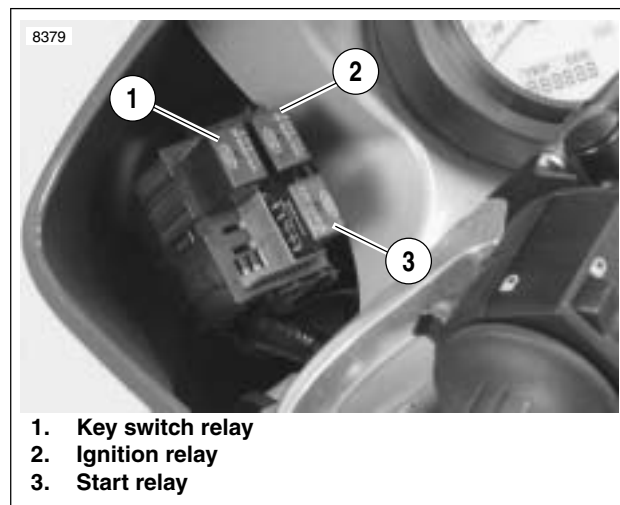

Figure 7-15. Relay Block
1. See Figure 7-15. Locate ignition relay (2) within relay block.
See Figure 7-15. The key switch relay (1) is located on the left side of the vehicle behind the fairing. See Ignition Relay under 7.5 STARTER INTERLOCK for testing procedure.